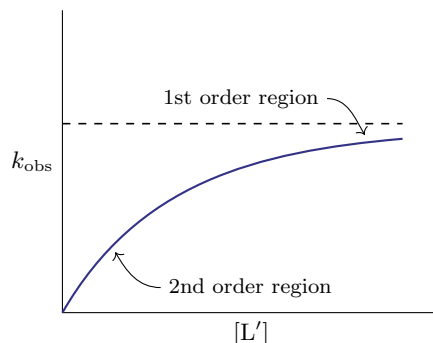

Figure 2.13: The effect of  $[\text{L}']$  on rate.
– If we plot  $k_{\text{obs}}$  vs.  $[\text{L}']$ , we get Figure 2.13.